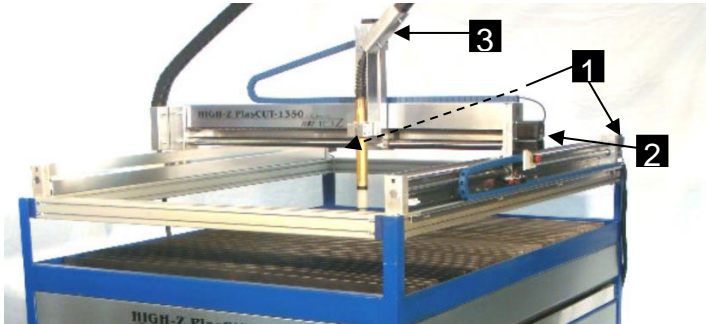

Figure 13: Stepper motors
- Connector X1 stepping motor of the X-axis (Fig. 13/1).
- Connector X2 stepping motor of the X-axis (Fig. 13/1).
- Plug Y stepping motor of the Y-axis (Fig. 13/2).
- Plug-Z stepper motor Z-axis (Fig. 13/3).